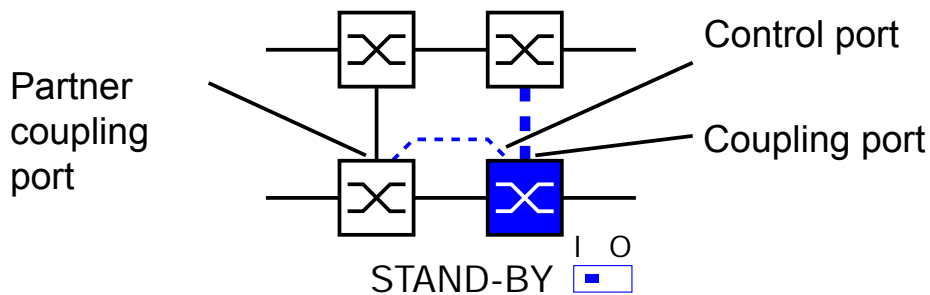

Figure 53: Two-Switch coupling with control line
- Select two-Switch redundant coupling with control line (see fig. 53).